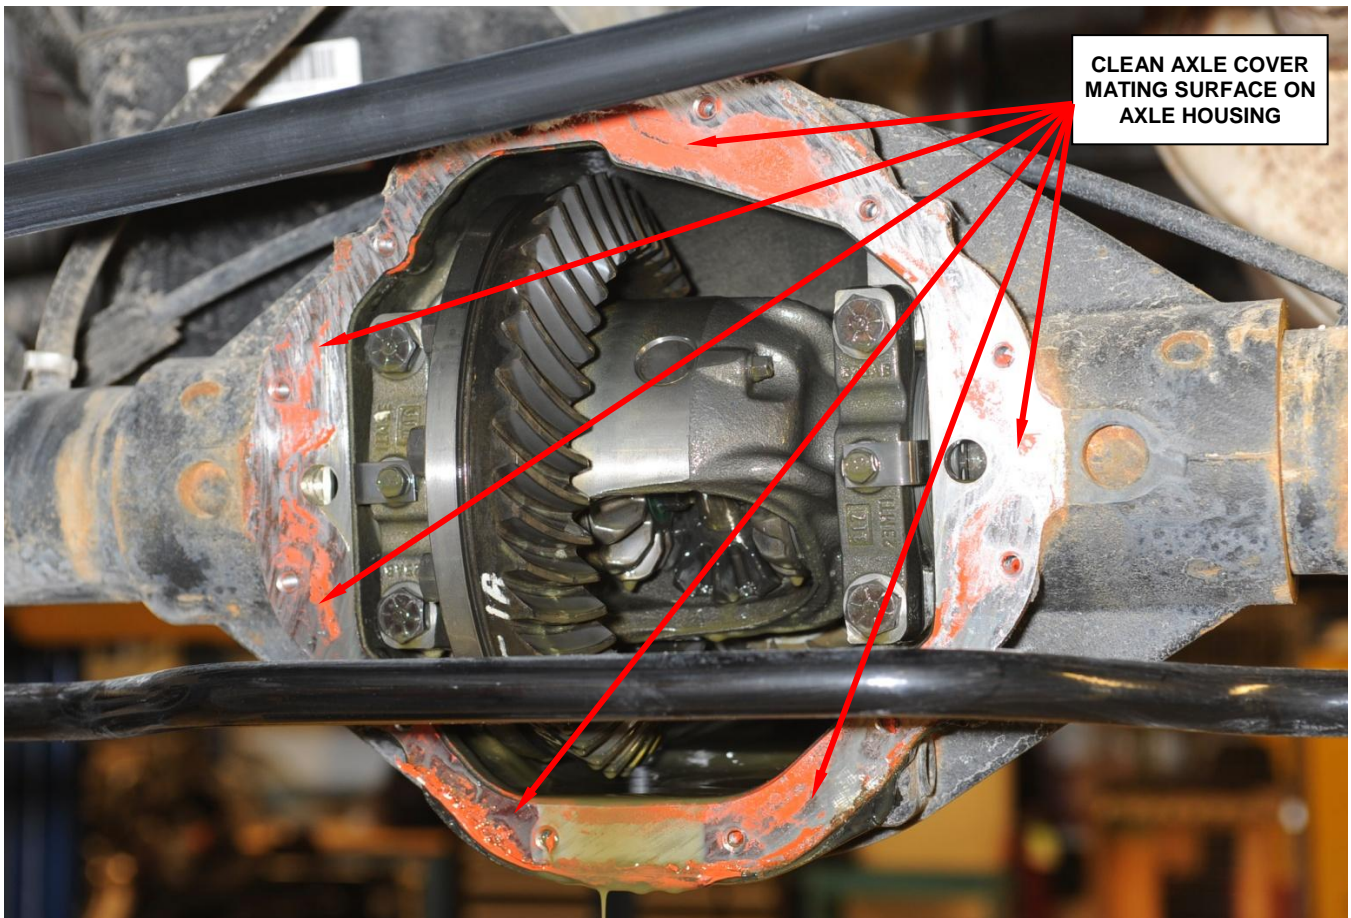

Figure 2 – Clean Axle Cover Mating Surface on Axle Housing
8. Using a gasket scraper, carefully clean the axle cover mating surface on the axle housing (Figure 2).
9. Using Mopar brake cleaner, clean the axle cover mating surface on the axle housing and any remaining gear oil from inside the axle assembly (Figure 2).